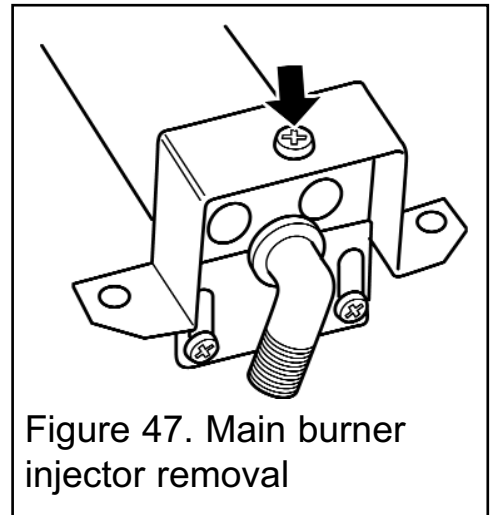

Figure 47. Main burner injector removal
(See figure 47).
2. Remove the burner clamping screw (See figure 47).